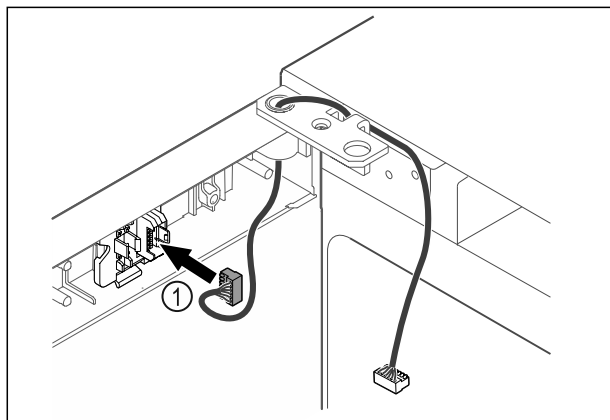

Fig. 46
- Put the plug Fig. 46 (1) in the plug holder.